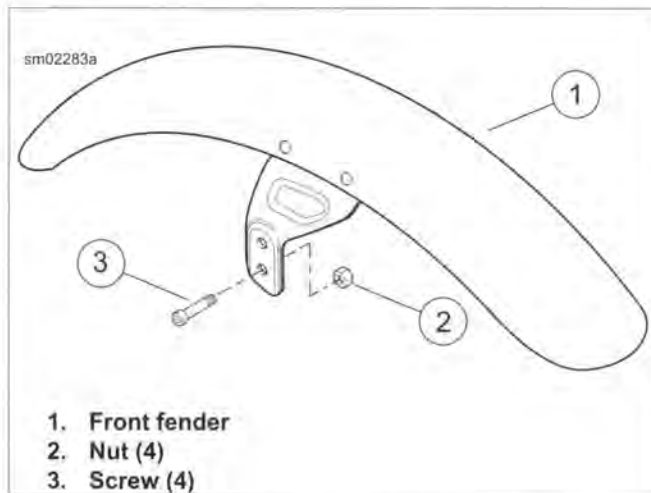
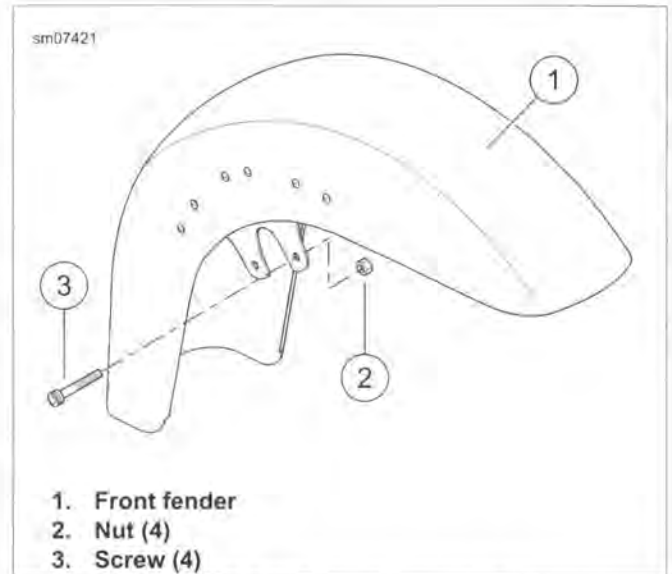

Figure 2-135. Front Fender: All But FLD
Figure 2-136. Front Fender: FLD
1. See Figure 2-135 or Figure 2-136. Remove both screws (3) and nuts (2) on each side.
1. See Figure 2-135 or Figure 2-136. Carefully position fender and align mounting holes.
3. Install screws (3) through fender mounting holes in fork legs.
4. Install nuts (2) onto screws. Tighten to 15-21 ft-lbs (20.3-28.5 Nm).